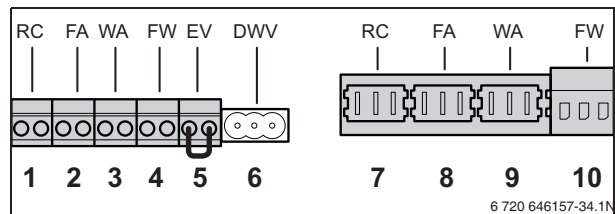

Fig. 34 External connection board connections
- Connect a Room- or Cascade controller to the orange RC terminal (fig. 34). → paragraph 7.1.4 "Controller", page 28.
- Connect the outdoor temperature sensor to the blue FA terminal (fig. 34).
- Connect the potential-free heat demand contact (On/Off thermostat) or relay panel end switch to the green WA terminal (fig. 34). The maximum allowed resistance of this circuit is 100 Ω
- Remove the cable from the EV terminal (fig. 34).
- Connect the external switch contact to the red EV terminal (fig. 34).